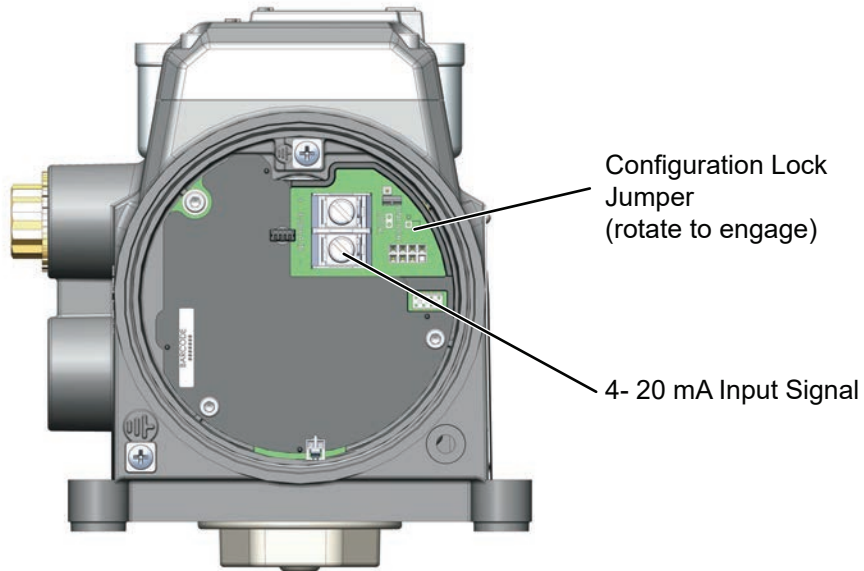

Figure 17 - Connections to Main Electronics Module (via Terminal Board)
5. Locate the correct terminal block on the terminal board (see Figure 17).